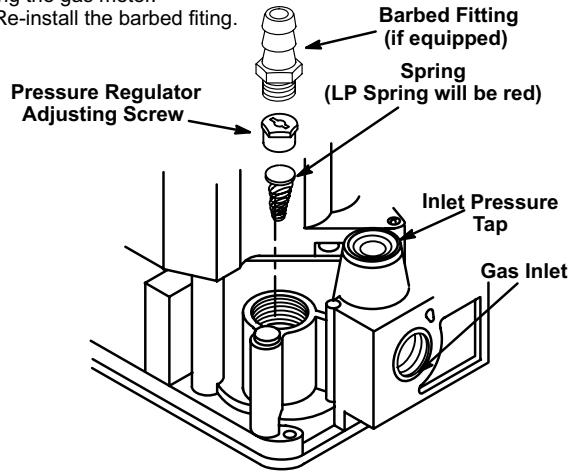

Figure 6. Conversion of Gas Valve
6. Replace the gas valve regulator spring with the provided regulator spring. See Figure 6.